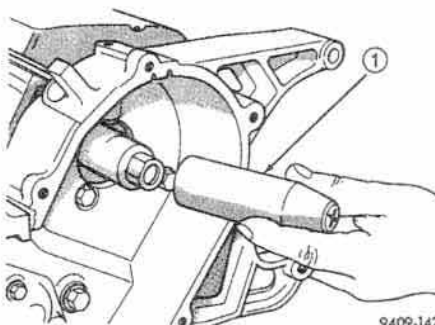

Fig. 17 Camshaft Oil Seal Protector Sleeve
(1) Apply light coat of engine oil to the camshaft oil seal lip.
(2) Install the oil seal using Special Tool 6788 Seal Protector Sleeve (Fig. 17) and Seal Installer 6052 (Fig. 18).